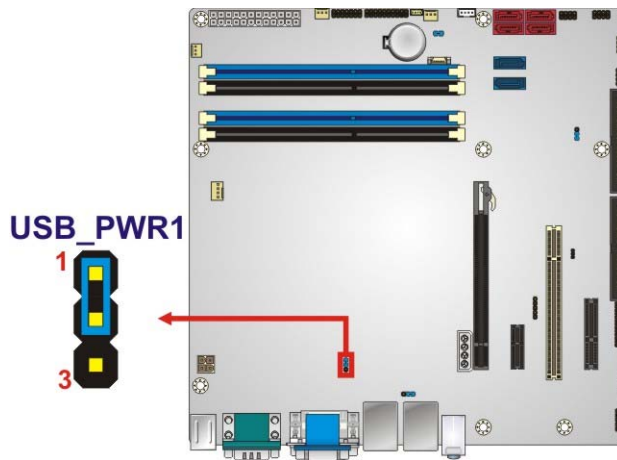

Figure 4-9: USB Power Select Jumper Location
- Jumper Location:** See Figure 4-9